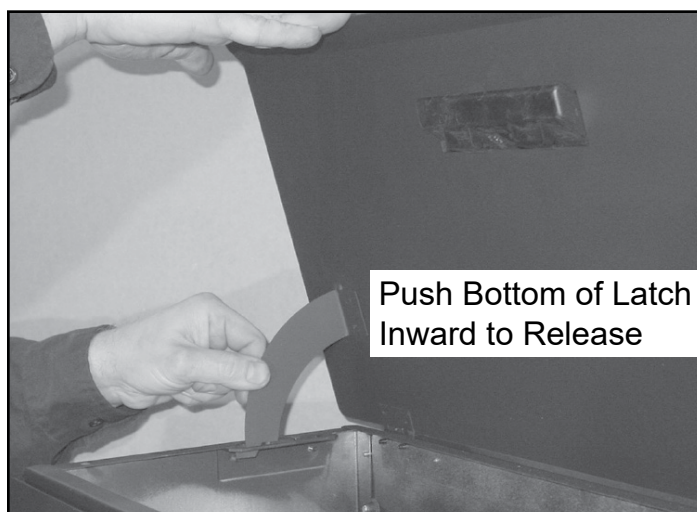

Figure 11.2
3. To close the hopper lid, while holding lid open with one hand, push the bottom of the latch inwards to release from locked position and then slowly close the hopper lid (**Figure 11.2**).